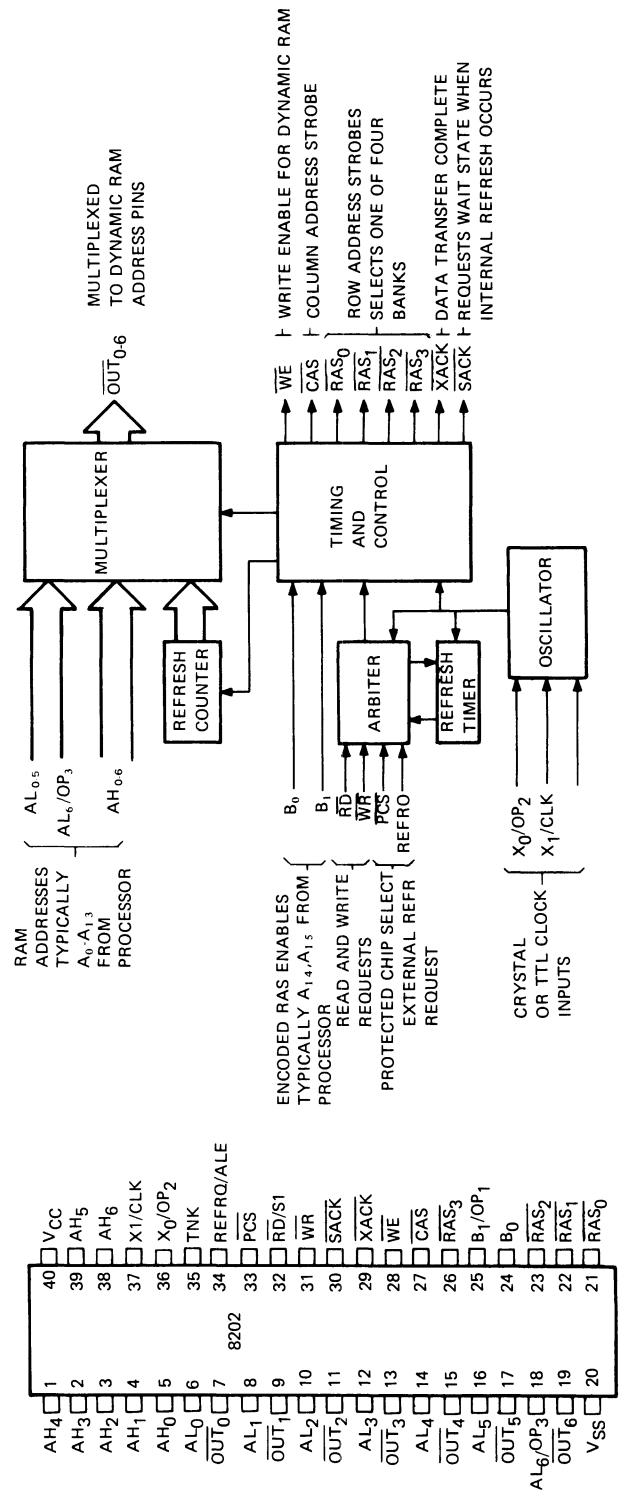

Figure 5-8 8202 Block Diagram and Pin Description
Figure 5-8 shows the block diagram of the 8202 and its pin configuration. Refer to Table 5-2 for the 8202 pin description.
5.2.1.6 Memory Refresh Cycle -- A read cycle causes a refresh to occur. The memory refresh is controlled internally by the dynamic RAM Controller (8202). Figure 5-8 shows the components used for the refresh cycle. 128 memory refresh occurs every 2 ms. The refresh logic has 2 sections.